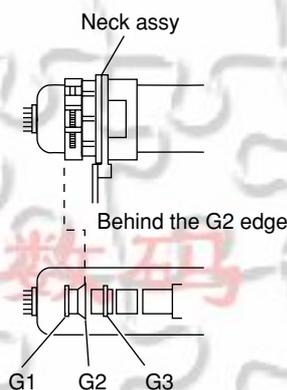

Fig. 4-1
2. Position neck assy as shown in Fig4-1.